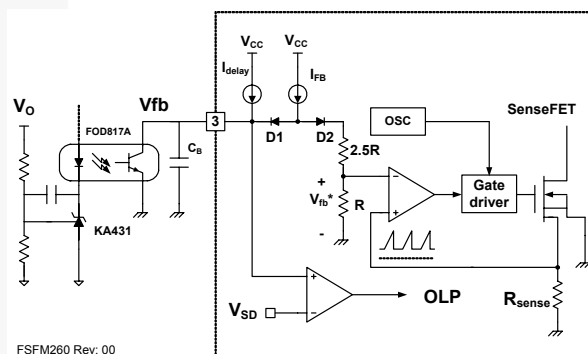

Figure 17. Pulse Width Modulation (PWM) Circuit
2. Feedback Control: FSFM260/261/300 employs current-mode control, as shown in Figure 17. An optocoupler (such as the FOD817A) and shunt regulator (such as the KA431) are typically used to implement the feedback network. Comparing the feedback voltage with the voltage across the R_{SENSE} resistor makes it possible to control the switching duty cycle. When the reference pin voltage of the shunt regulator exceeds the internal reference voltage of 2.5V, the opto coupler LED current increases, pulling down the feedback voltage and reducing the duty cycle. This typically occurs when the input voltage is increased or the output load is decreased.
2.1 Pulse-by-Pulse Current Limit: Because current-mode control is employed, the peak current through the SenseFET is determined by the inverting input of the PWM comparator (V_{FB*}), as shown in Figure 17. When the current through the opto-transistor is zero and the current limit pin (#4) is left floating, the feedback current source (I_{FB}) of 0.9mA flows only through the internal resistor (R+2.5R=2.8k). In this case, the cathode voltage of diode D2 and the peak drain current have maximum